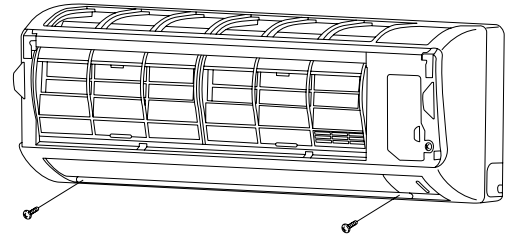
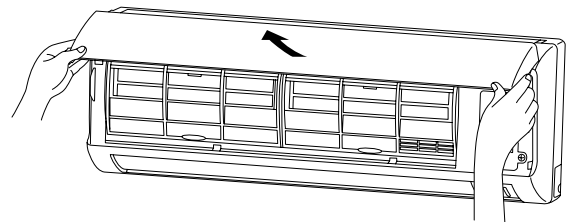

Fig. 3-86
Fig. 3-89
- (2) Remove the 2 screws. (Fig. 3-86)
- (2) Make sure that the grille and frame are firmly fitted together by engaging the tabs.
- (3) Affix the grille with the 2 previously removed screws. (Fig. 3-86)
- (4) Install the air intake grille.
- a) Allow the edge of the air intake grille to slide into the top of the indoor unit, and then insert it all the way inside. (Fig. 3-89)